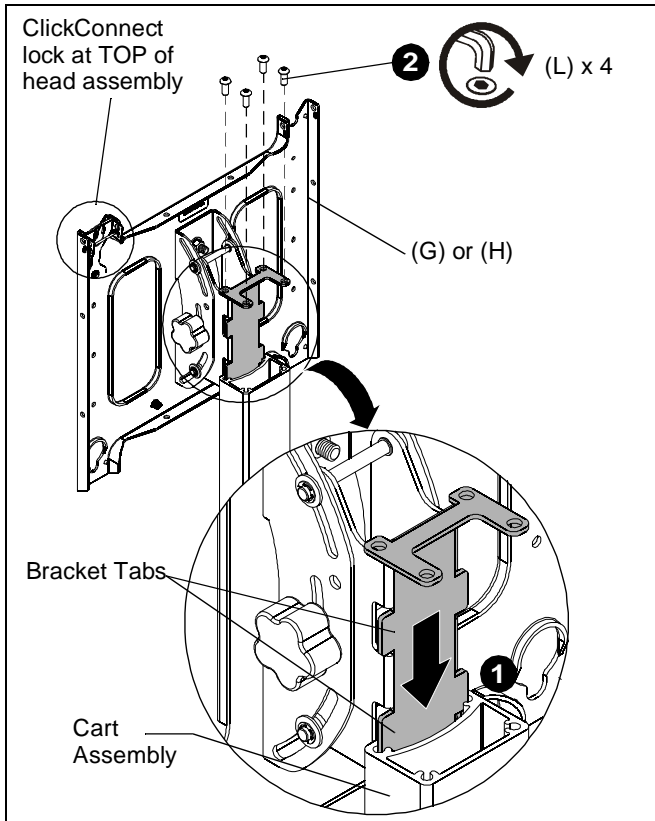

Figure 5
**IMPORTANT !** : When attaching head assembly ensure that the ClickConnect lock is at TOP of head assembly, and bracket tabs slide into the stand assembly. (See Figure 5)
1. Slide head assembly (G) or (H) into the stand assembly. (See Figure 5)
2. Attach head assembly (G) or (H) to the cart assembly using four 5/16-18 x 3/4" button head cap screws (L). (See Figure 5)